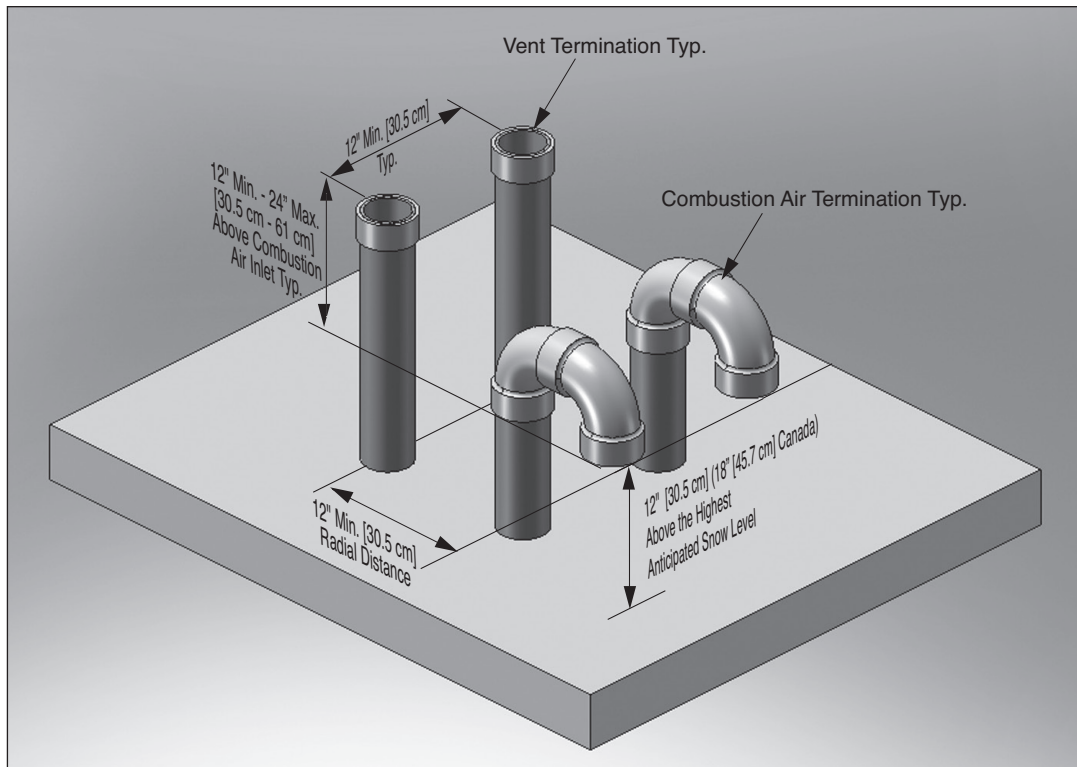

Fig. 5 - Direct Vent - Vertical Termination of Multiple Prestige Boilers
2. The roof penetration of the vent and combustion air piping must be such that the combustion air inlet is a minimum 12 in. [30.5 cm] from the adjacent vent pipe of the other boiler for installations in the U.S. as shown in *Fig. 5* on page 14. For installations in Canada, provide clearances as required by CAN/CSA B149.1.